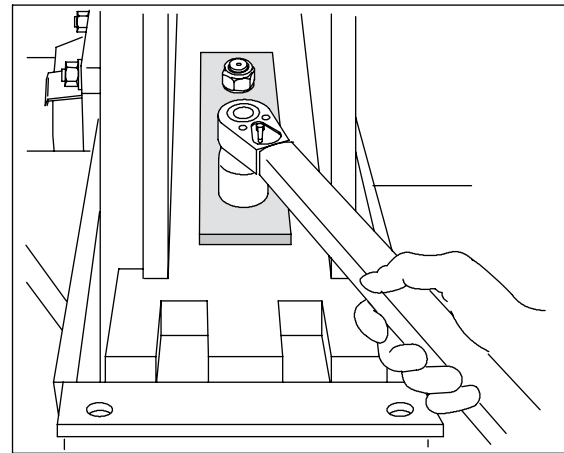
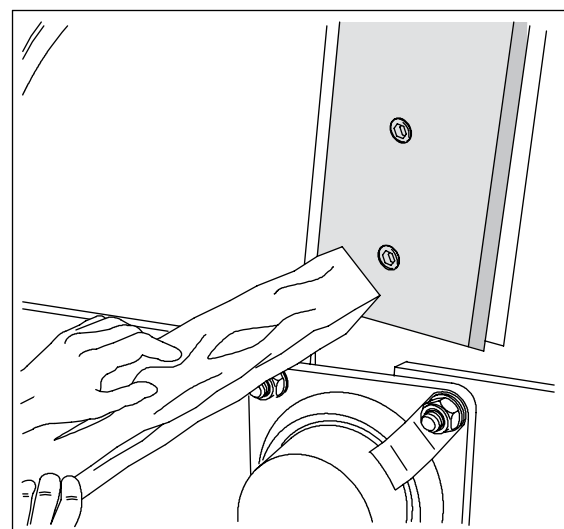

Fig 27. Loosening the knife bracket nuts
Fig 28. Moving the knife bracket
2. To increase the chip length, loosen the anvil fastening bolts (A) and (B) (M16) first.
4. Loosen the knife bracket fastening nuts (M20). See Fig. 27. Adjust so that the distance from both ends of the knife to the edge of the disk is equal. If necessary, tap the knife bracket with wood or a rubber hammer. See Fig. 28.